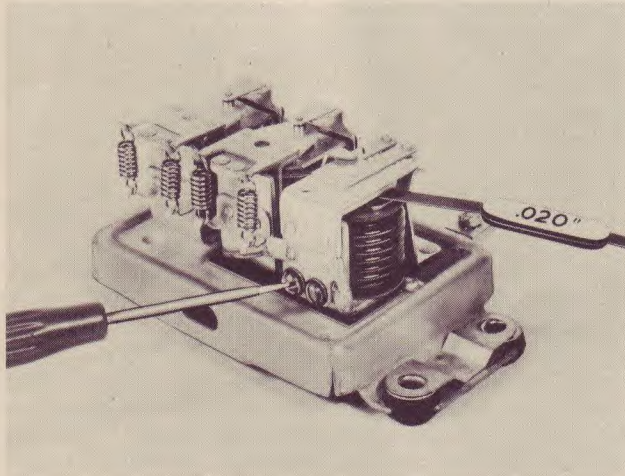

FIGURE 2-19
**Air Gap** between the center of the winding core and the armature should be measured with the contact points held closed (Figure 2-19). If both sets of points do not close at the same instant, bend the spring fingers until they do. Adjust by loosening the two adjusting screws and raising or lowering the armature as required.